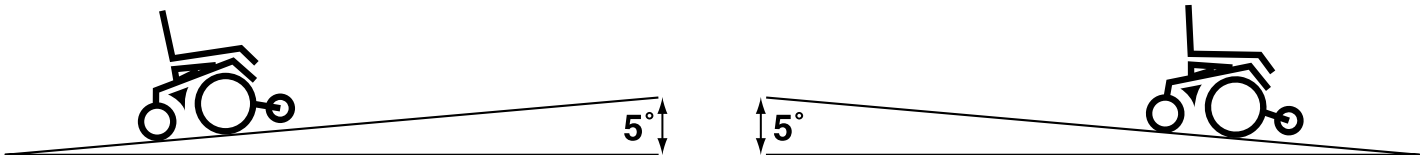

Figure 1. Maximum Safe Angle (Ascending and Descending)
**WARNING! Even though your power chair is capable of climbing slopes greater than those illustrated in figure 1, do not, under any circumstances, exceed the incline guidelines or any other specifications presented in this manual. Doing so could cause instability in your power chair, resulting in personal injury and/or damage to your power chair.**